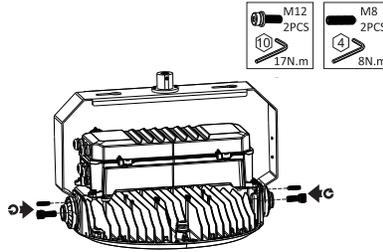

Fig. 32
2. Secure multi-mount bracket to fixture by re-attaching yoke mount plates on each side of the fixture (Fig. 32).